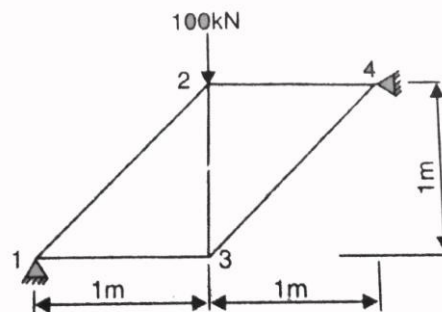

Figure 1
4. Determine the nodal displacement of the following figure 1. [10]